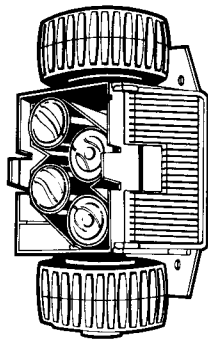

FIG. 2
4. Match the charge of each of the four batteries with the charge signs located inside the battery compartment. Use only alkaline batteries for longer life and better performance. Insert the batteries as shown in Fig. 2 and replace the battery cover.